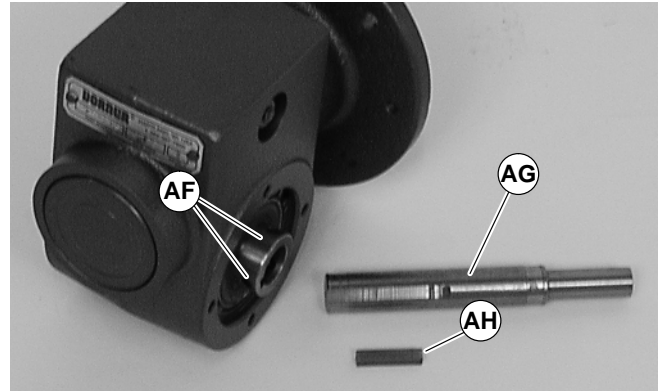

Figure 17
6. Remove two (2) screws (AC) and detach output shaft cover (AD).
7. Loosen six (6) set screws (AF of Figure 17). Remove drive shaft (AG) and key (AH).
8. Remove gear reducer output shaft key (AE).
10. Replace the original shaft (AG of Figure 17) and key (AH) into new gear reducer. Tighten set screws (AF) to 26 in-lb (3 Nm).